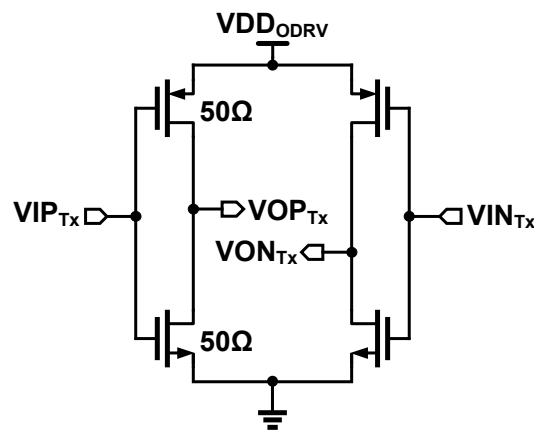

Figure 3: Voltage mode output driver with active output impedance.
4. Design differential voltage mode (VM) output driver for 5 Gb/s data rate (see Fig. 3). The output driver should have following attributes: